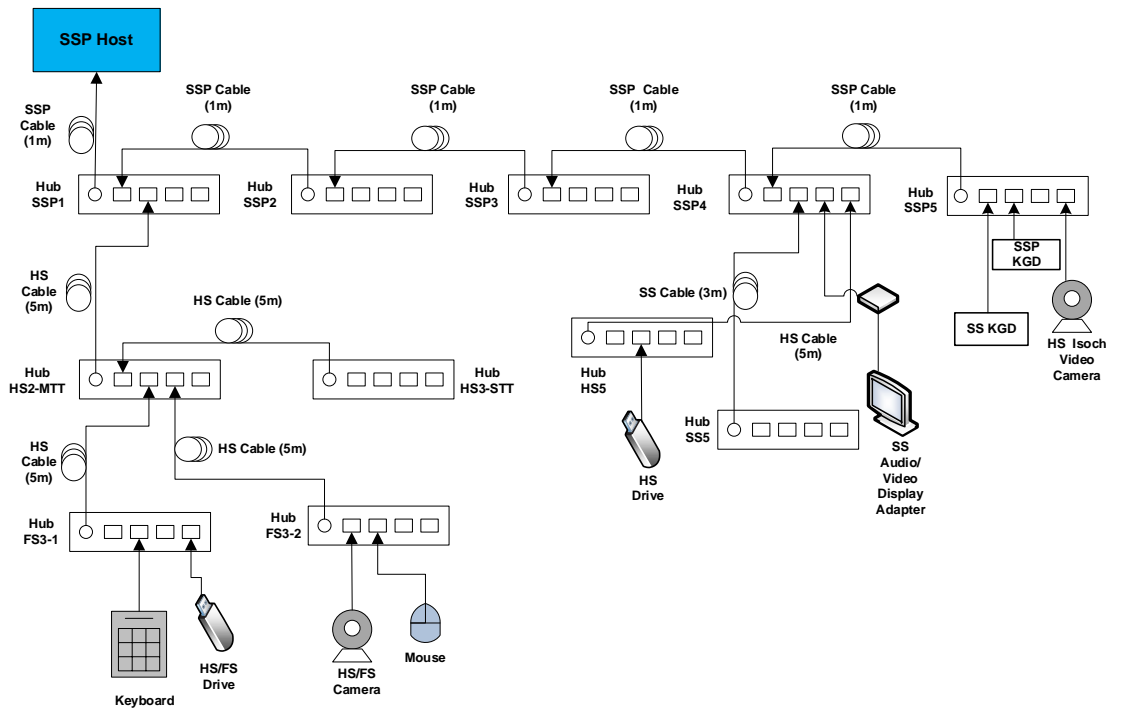

Figure 11-4: Modified SSP Host Interoperability Interop Tree (with SSP device and SSP Hubs Interop Tree)
- Connect the SSP tree as shown in Figure 11-4